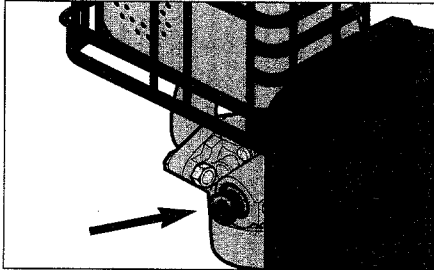

Figure 3-9:
4. Move the carburetor choke lever to “FULL CHOKE” position on the 4HP Tecumseh engine or the 5HP Briggs & Stratton engine (in the direction of the arrow on 4HP Tecumseh engines; toward “Choke” on 5HP Briggs & Stratton engines). On the 6HP Tecumseh engine, push in the fuel primer button once or twice (providing the engine is cold; otherwise do not prime engine). See Figure 3-9, Photo 3-10 or Photo 3-11.